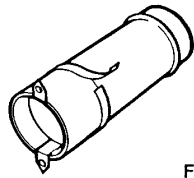

Fig. 65
6. Refit the end piece to the liner and open out to the thickness of the wall. Seal the two pieces together using the tape provided with the kit (Fig 65).